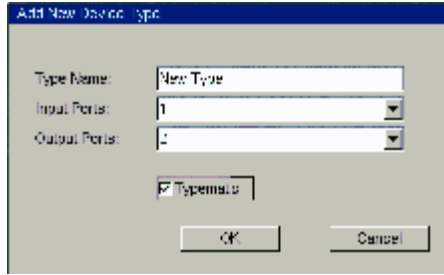

Figure 36 Add New Device Type box
1. Click . The Add New Device Type box appears. See Figure 36.